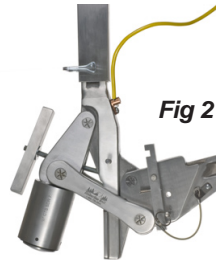

Fig 2
2. Turn the **Slow Release Nut** counter clockwise until it is close to the end of the **threaded rod**, so the jaw can completely open. (*Fig 2*)